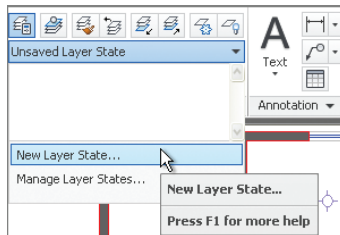

FIGURE 6.17 Saving a new layer state
2. Open the drop-down menu directly above the Layer drop-down (it says Unsaved Layer State by default). Select New Layer State in the drop-down menu (see Figure 6.17).